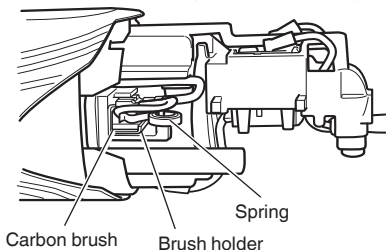

Fig. 5
4. Replacing carbon brushes (Fig. 5)